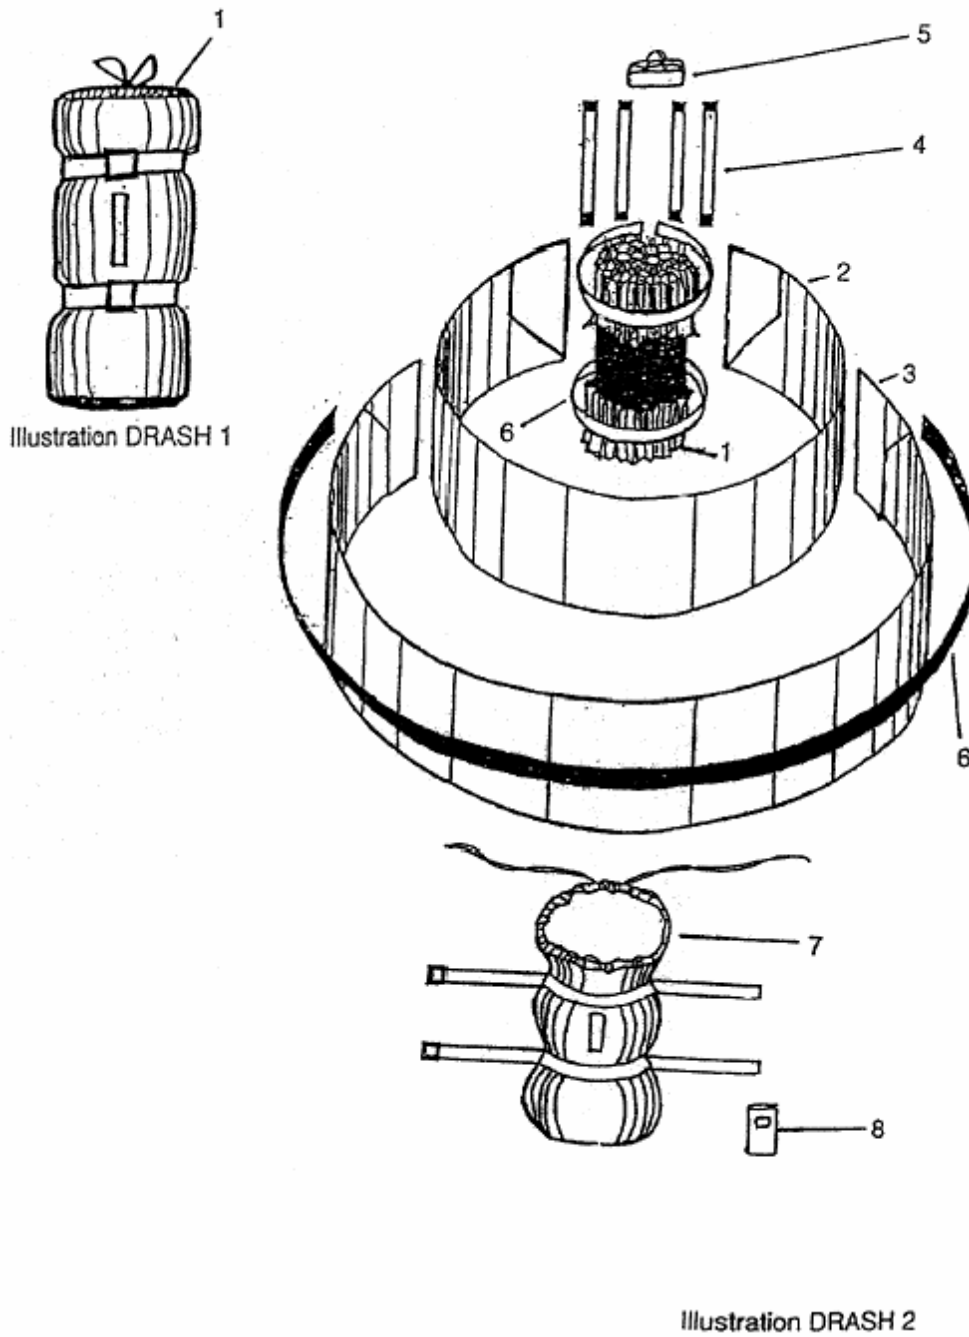

Figure 5-1 - DRASH Shelter Component Detail
- NOTES: 1. Numbered Items are not related to illustration numbers shown in Figure 5-1.